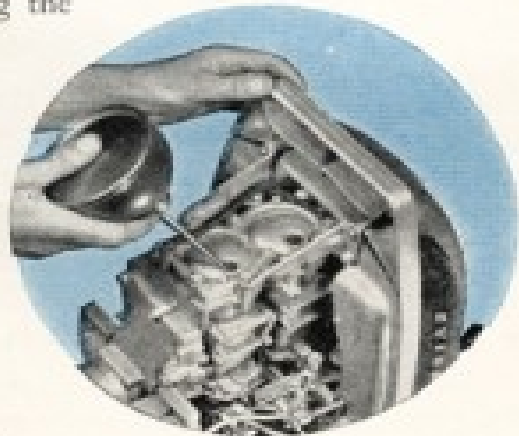
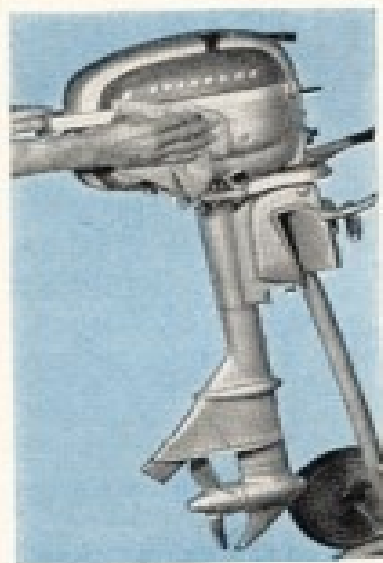
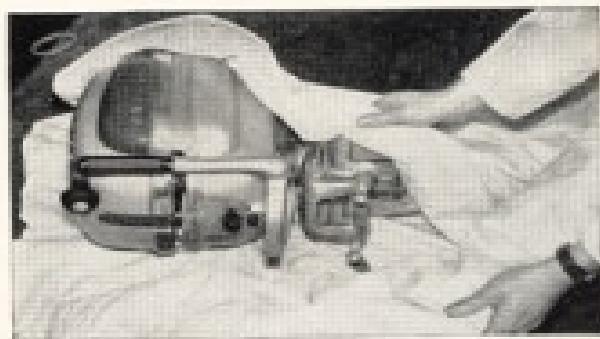

Fig. 21
Fig. 22
Fig. 23
Drain the water out of the pipes and cylinder jackets as instructed under "CARE OF MOTOR IN COLD WEATHER". Drain all fuel from Fuel Tank and Carburetor (Fig. 20). It is also a wise precaution to remove the spark plugs, put a couple of teaspoonfuls of pure lubricating oil into the cylinders (Fig. 21) and then revolve the flywheel several times to spread the oil over the cylinder walls before putting the spark plugs back. Drain and fill Gear Housing per instructions on page 4 "GEAR LUBRICATION". Wipe the entire motor with a cloth saturated with oil (Fig. 22). An exterior film of oil won't hurt any piece of machinery, but dampness and rust **WILL**. When these instructions have been carried out, wrap the motor in a piece of canvas, an old blanket, or in heavy paper, (Fig. 23) and store in a dry place.
WHEN READY TO USE IT AGAIN If your motor has been idle for some time, or has been stored without following the instructions, "Storing the Motor Away", it is a good plan to squirt a little pure lubricating oil into the cylinders through the spark plug holes (Fig. 21). This done, the flywheel should be revolved a few times, to spread the oil around the cylinder walls.
8. Put about two or three tablespoonfuls of oil, of the kind you mix with gasoline, in each cylinder, through each spark plug hole, (Fig. 21) and with the spark plugs removed and both wires grounded rotate flywheel rapidly by pulling starter handle. Repeat this process several times, then put spark plugs in cylinders, fill fuel tank with new fuel mixture and proceed to start motor.